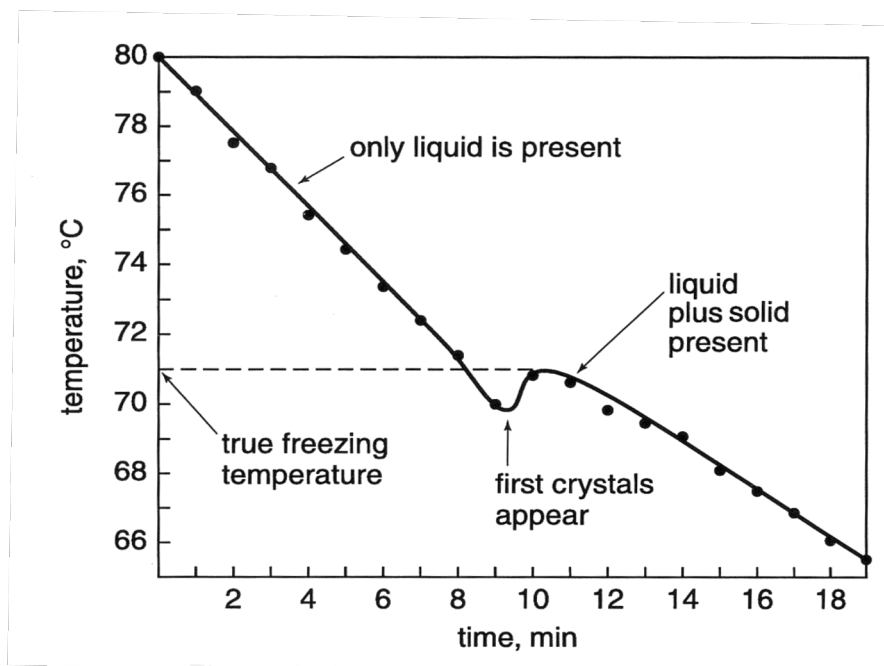

Figure 5. Cooling curve for a solution. The temperature of the solution does not remain constant once the first crystals of solvent have appeared.
In contrast, a solution does not freeze at a constant temperature. Why is this? As noted above, the solid that forms is pure solvent; solute molecules are largely excluded from the solid. As the freezing progresses, more solvent is removed from the liquid, so the concentration of the solute increases. Thus, the freezing point is depressed further and further. One also observes that the subcooling required to initiate crystallization is greater for the solution, most likely due to the presence of solute particles which interfere with the formation of pure solvent crystals. As in the first cooling curve, the temperature of the system rebounds. We take the **freezing point of a solution** to be the **highest temperature attained after crystals first appear**. This is shown in **Figure 5**.
- a. Plot these data by hand, using the graph paper following the prelab, OR use graphing software (e.g. Excel, Calc). Show **temperature** on the **ordinate** and **time** on the **abscissa**. Label the point at which crystals first appeared, and identify the freezing temperature of the solution. Connect the data points by hand-drawing a smooth curve (as in **Figure 5**). Remember to include a title, axis titles and units, and axis values.